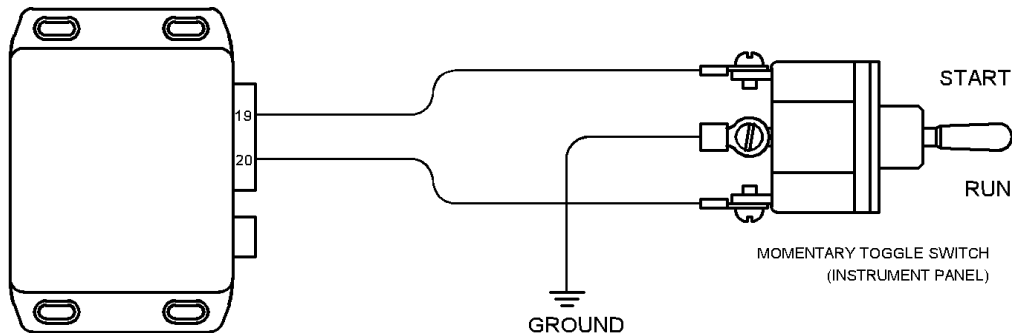

Figure 5 – Normal Start/Run Switch Wiring
- Have the Start/Run Selection wired according to Figure 5 – Normal Start/Run Switch Wiring (page 9).